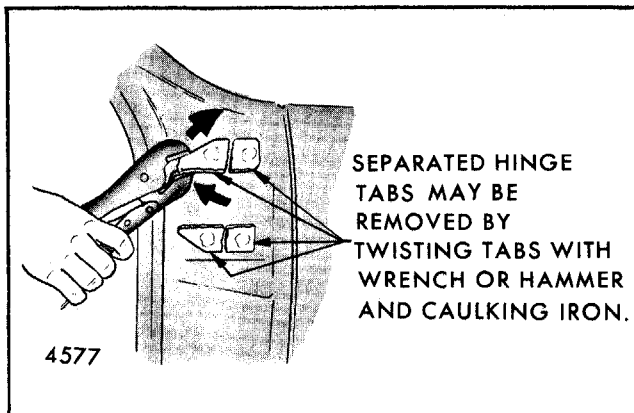

Fig. 5-102-Body Side Hinge Strap Removal
5. Mig welds holding separated hinge tabs can be broken by twisting or rotating the individual tabs as shown in Figure 5-102, using vise grip type pliers, pipe wrench or hammer and caulking iron (or other suitable tools).
5. Mig welds holding separated hinge tabs can be broken by twisting or rotating the individual hinge tab segments with suitable tool, such as grip type pliers, pipe wrench, etc., (refer to Fig. 5-102).